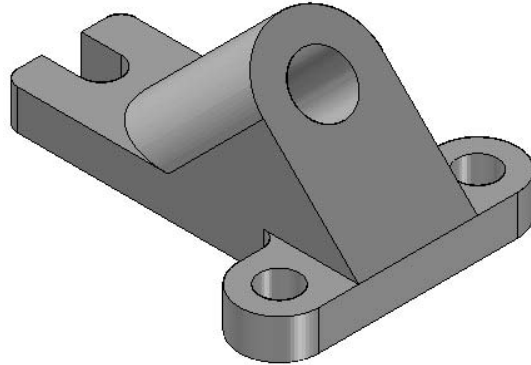

Figure 5-74 Final model for Tutorial 3
- c. Extrude the profile up to the next face to complete the feature, refer to Figure 5-74.
15. Press and hold the SHIFT key and then select the three base reference planes from the **Docking window**. Right-click and choose **Hide** from the shortcut menu to turn off the display of the base reference planes. The final model for Tutorial 3 is shown in Figure 5-74.